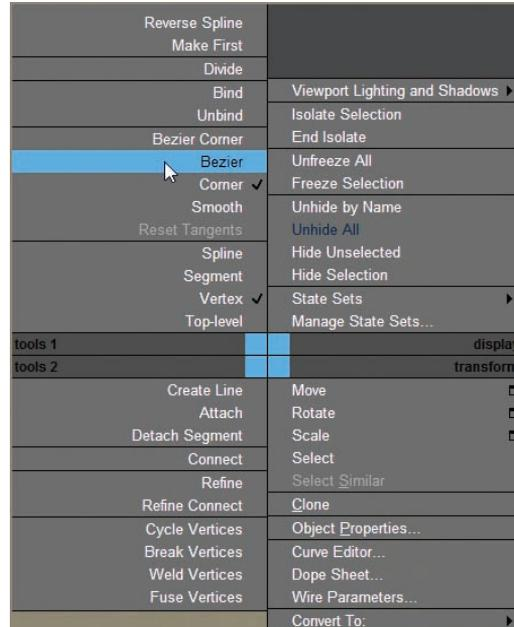

FIGURE 2.22 Use the quad menu to modify the vertex type.
8. In the upper-left quadrant of the quad menu, choose Bezier, as shown in Figure 2.22.